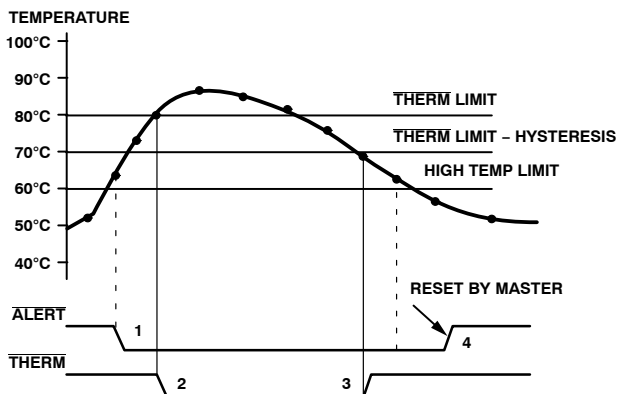

Figure 19. Operation of the $\overline{\text{ALERT}}$ and $\overline{\text{THERM}}$ Interrupts
Figure 19 shows how the $\overline{\text{THERM}}$ and $\overline{\text{ALERT}}$ outputs operate. The $\overline{\text{ALERT}}$ output can be used as an SMBALERT to signal to the host via the SMBus that the temperature has risen. If the temperature continues to increase, the $\overline{\text{THERM}}$ output can be used to turn on a fan to cool the system. This method ensures that there is a fail-safe mechanism to cool the system, without the need for host intervention.
- The $\overline{\text{THERM}}$ output deasserts (goes high) when the temperature falls to $\overline{\text{THERM}}$ limit minus hysteresis. In Figure 19, the default hysteresis value of 10°C is shown.